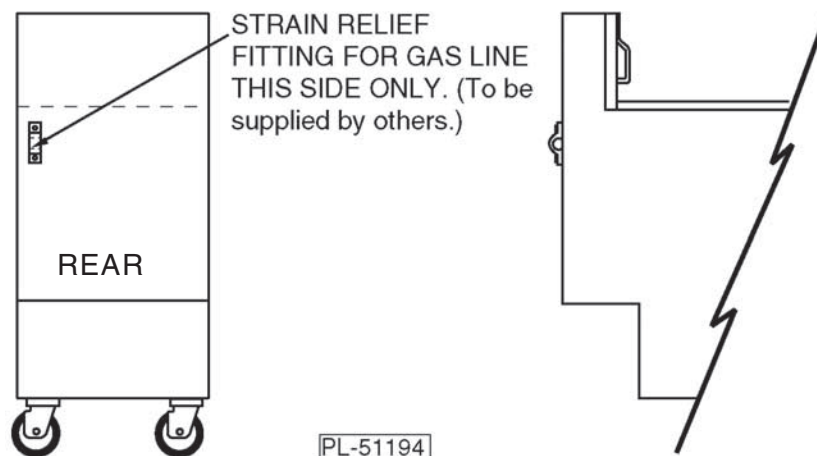

Fig. 3
- For an appliance equipped with casters, instructions that (1) the installation shall be made with a connector that complies with the Standard for *Connectors for Movable Gas Appliances, ANSI Z21.69* or *Connectors for Moveable Gas Appliances, CAN/CGA-6.16*, and a quick-disconnect device that complies with the Standard for *Quick-Disconnect Devices for Use With Gas Fuel, ANSI Z21.41*, or *Quick Disconnect Devices for Use with Gas Fuel, CANI-6.9*, (2) adequate means must be provided to limit the movement of the appliance.
- The fryer must be installed with restraining means to guard against transmission of strain to the connector, as specified in the strain relief manufacturer's instructions (Fig. 3).